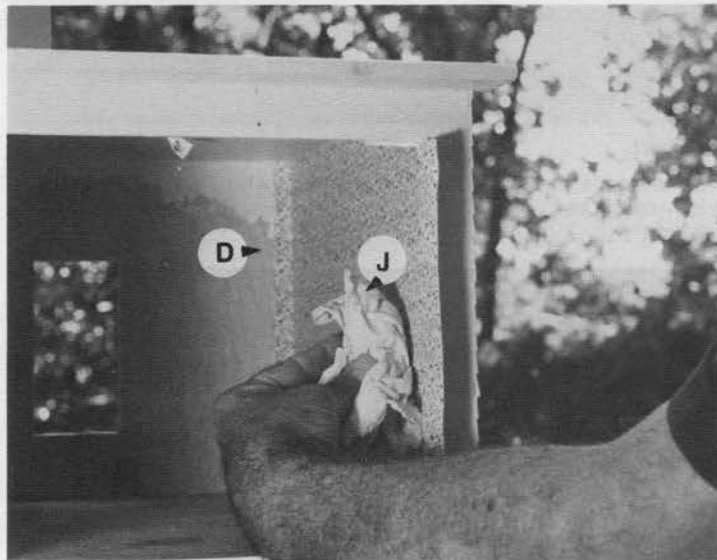

Fig. D-15
Apply the adhesive liberally and evenly, immediately place paper onto the wall and start smoothing and sliding into place, rubbing gently with a damp paper towel, (J), (FIGURE D-15). Install the paper right up against the ceiling and on top of the corner pieces, (D), installed in (FIGURE D-13).